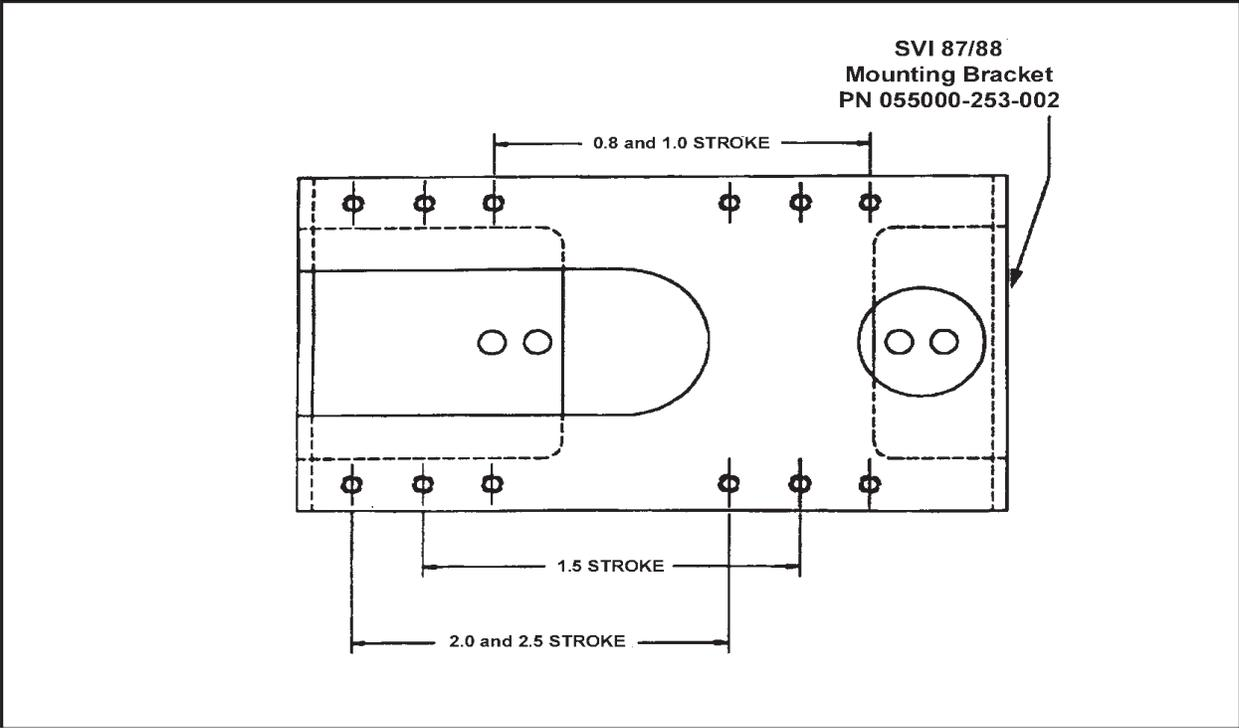

Figure 18. SVI Mounting Bracket for 87/88 Multi-Spring Actuator
4. Mount the SVI to the mounting bracket using four 1/4 - 20 UNC socket-head cap screws. The set of mounting holes to be used is dependent upon the specific valve stroke. Refer to Figure 18.